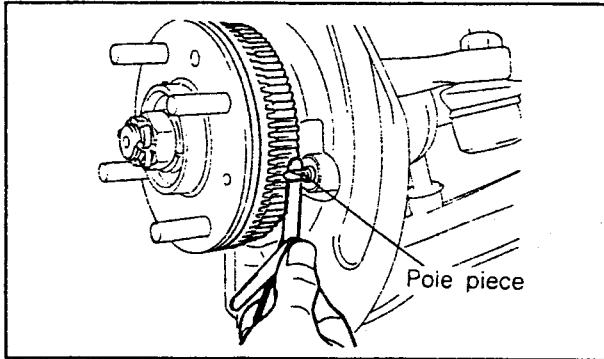

Fig. 9.9. — Measure the gap between the sensor end piece (pole piece) and the outside of the rotor teeth in the manner shown.
- Use feeler gauge of 0.3 - 0.9 mm in thickness and insert it between the tip of the sensor and the outside of the rotor teeth, as shown in Fig. 9.9. Push the sensor against the feeler gauge and tighten the screw.